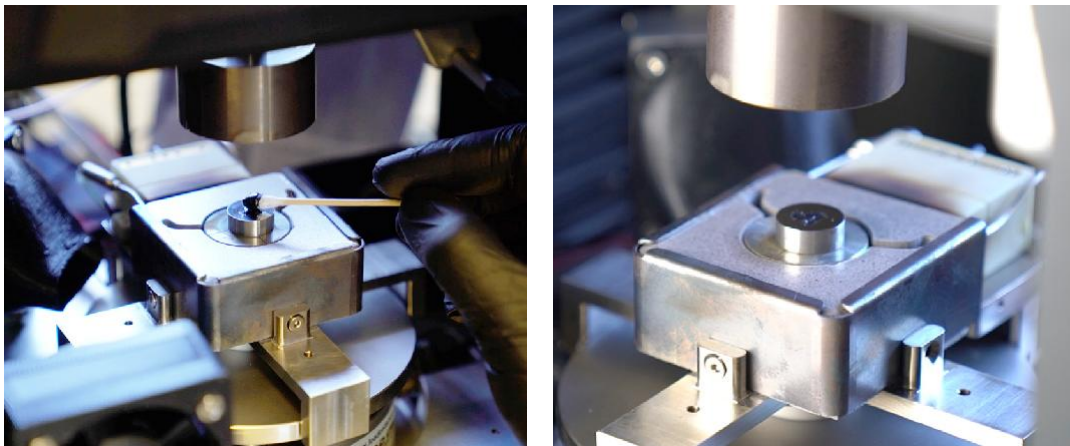

Figure 3.10 Application of lubricant to the sample
4. A dialogue box appears. Add a small amount of the provided lubricant (Omega 35 - Ultimate High Temperature Grease), as shown in Figure 3.10, to the sample and press “OK” to continue.